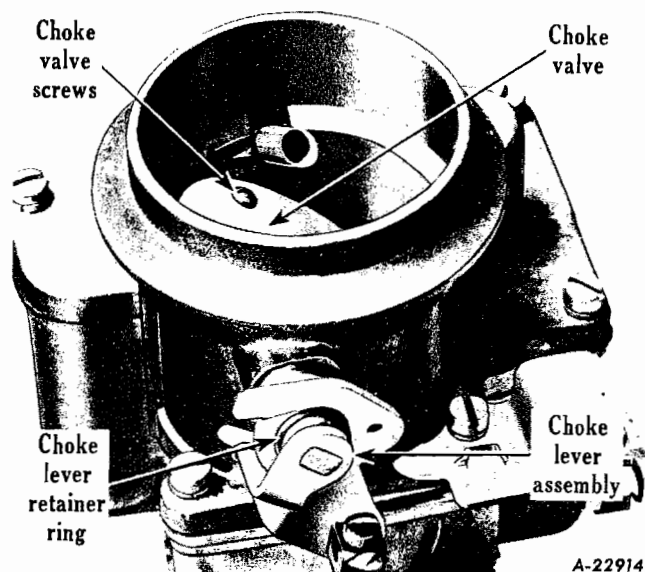

Fig. 8
15. Remove choke valve screws and choke valve. Unhook choke spring and slide shaft from housing. Do not remove balance vent tube. NOTE: In normal service, choke lever assembly will not require replacing. However, if it has been bent or otherwise damaged requiring replacement, proceed as follows: Pry off choke lever retainer ring and remove lever assembly (Fig. 8).